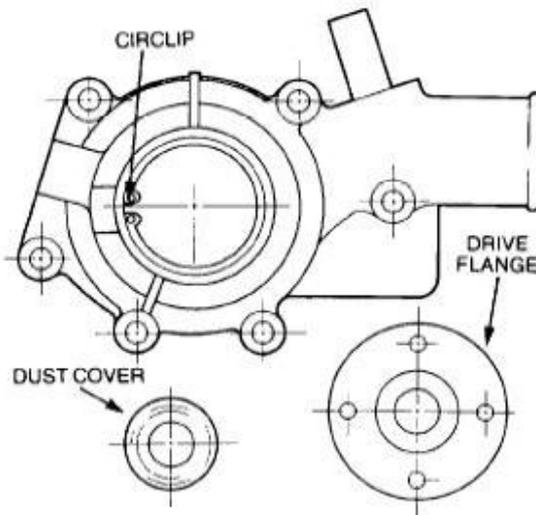

Figure 62 Removal of the Drive Flange
- Remove the circlip from the front of the water pump housing (Figure 62).